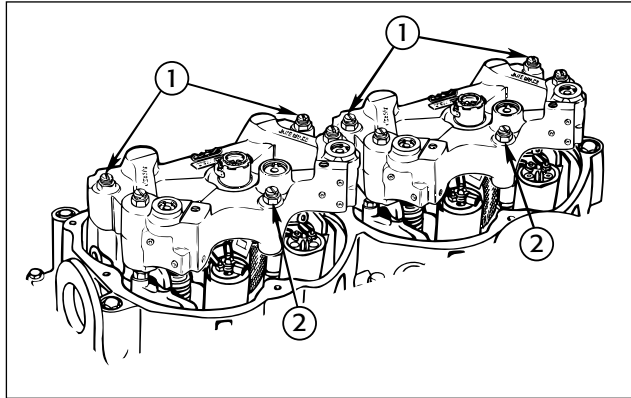

FIG. 12
Position the engine brake housings on the mounting stud nuts and install the Jacobs hold-down nuts (1) on the brake mounting studs Torque to 59 lbft. (80 N•m) (see Fig. 12).
Refer to Fig. 12. Install the 70 mm bolts (2) through the housing into the spacer (one per housing) and torque to 41 lbft. (55 N•m).